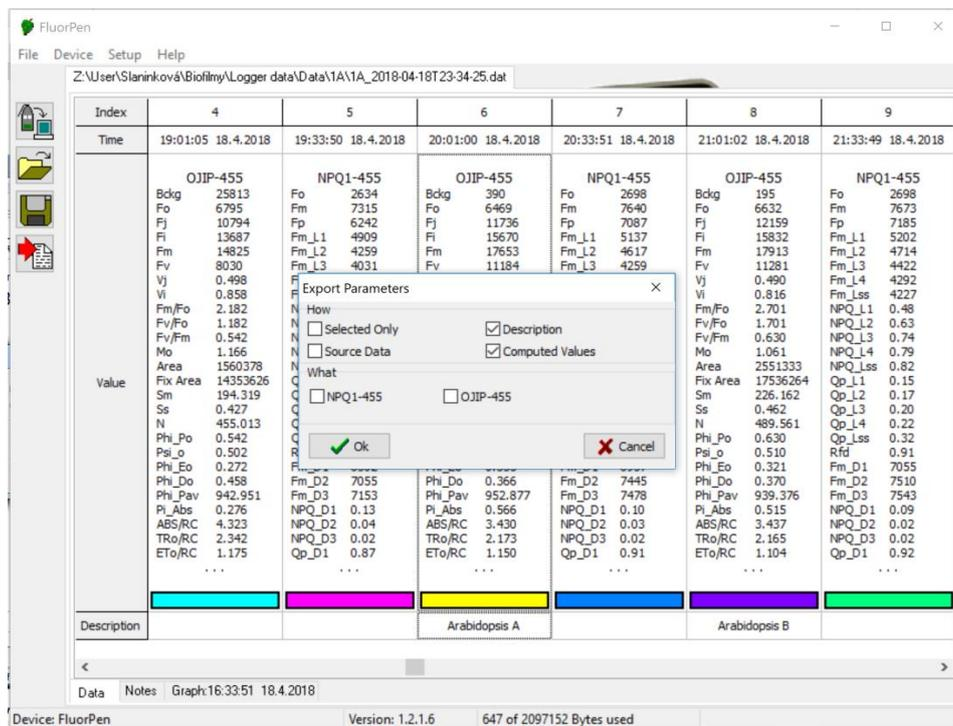

Fig. 23 Export data window.
- To **export** data from FluorPen software select **File > Export** or **Export** icon. Select the type of data to export (Ft, QY, OJIP...) (Fig. 23).